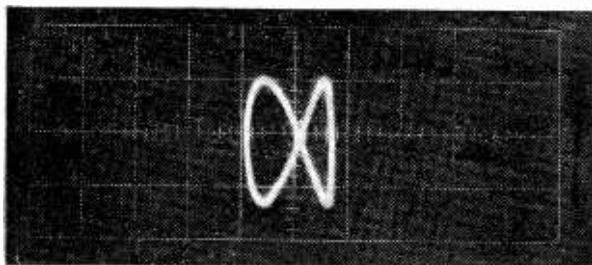

Fig. 4. Lissajous figure showing correct pilot tone phasing.
3. Adjust RV1 until the waveform is as shown in Fig. 4.